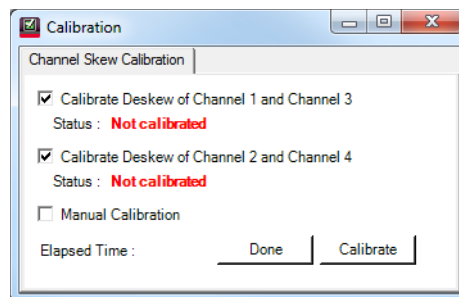
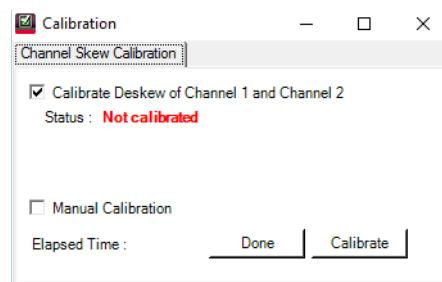

Figure 13 Options for Channel Skew Calibration on a 4-Channel Oscilloscope
Figure 14 Options for Channel Skew Calibration on a 2-Channel Oscilloscope
- 2 The **Calibration** window appears, where the **Channel Skew Calibration** tab is displayed by default, as shown in Figure 13 for a 4-Channel Oscilloscope and in Figure 14 for a 2-Channel Oscilloscope.